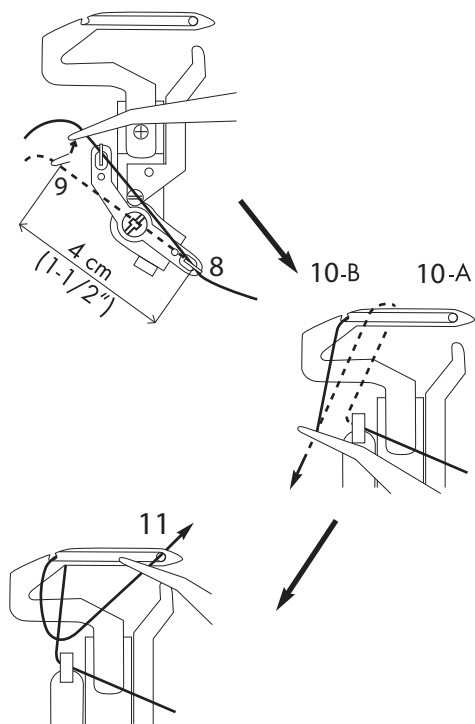

Fig. 23
6. Firmly hold the yarn with the tweezers about 4 cm from the thread guide (Fig. 23).
8. Pull the yarn upwards into the thread guide (9).
9. Lead the yarn to the rear and over the upper end of the lower looper ⑳ (10A) (Fig. 23).
10. Then, carefully pull the yarn down so that it slides into the recess of the looper (10B) (Fig. 23). For this step also use the drawing which is attached to the machine!
11. Guide the thread through the looper eyelet (11). The yarn should run in the groove of the lower looper ⑳ (Fig. 23).